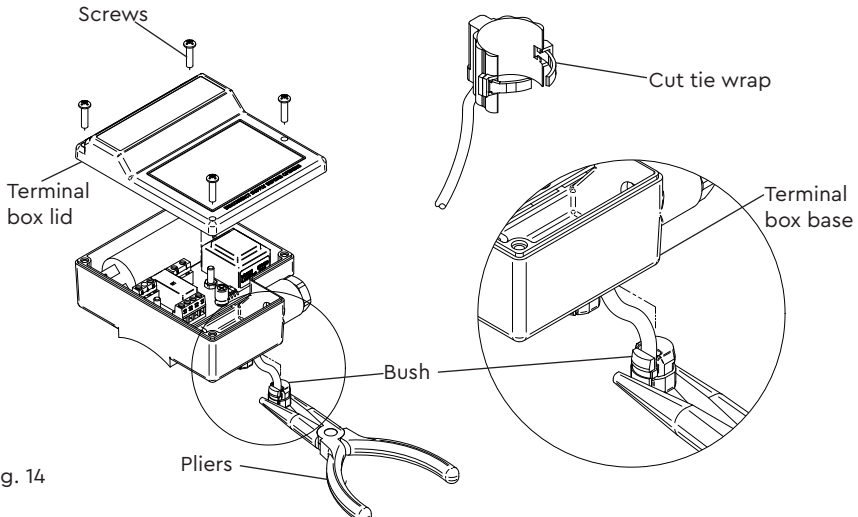

Fig. 14
- Remove four screws and carefully remove terminal box lid (Fig. 14).
- Remove the strain relief bush and reed switch cable by gripping with pliers (Fig. 14) and pulling downwards from the terminal box.
- Remove the existing reed switch by cutting the securing tie wrap and pulling away from the flow switch body (Fig. 14)